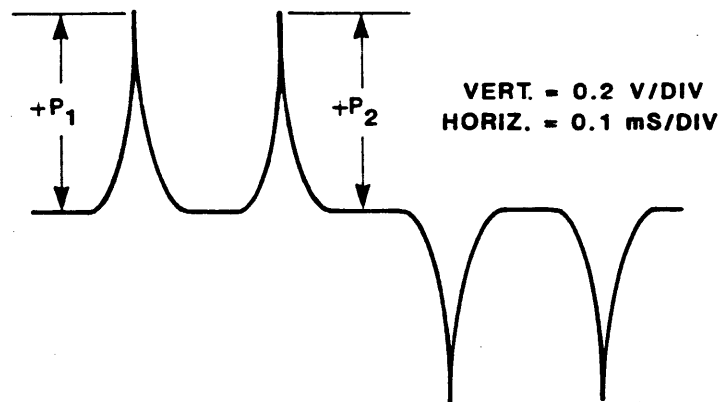

Figure 5-32.
2. Refer to Figure 5-32 and measure the amplitude difference between the two positive peaks, +P1 and +P2. With the head properly positioned vertically on the tape, the amplitude of the least positive peak (+P1 or +P2) will be within 80% of the amplitude of the most positive peak (+P1 or +P2). 80% corresponds to 0.002" tracking error.